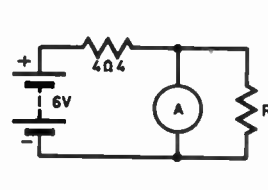

Fig. 8.10. Circuit for Problem 5.
5. When resistance R in the circuit of Fig. 8.10 equals 8Ω , the ammeter reads 0.8A . What will it read when $R = 2\Omega$? (Hint: find the ammeter resistance first).